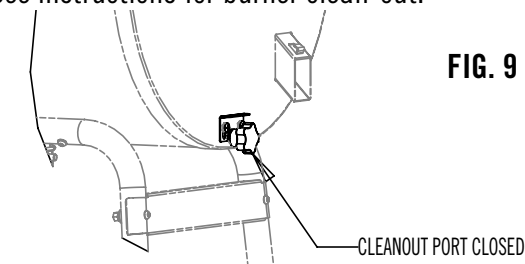

FIG. 9
1. Clean-out Port knob must be pushed in when grill is on. Make sure pullout lock is pushed down and locks the knob to prevent inadvertent opening of the clean-out port. See Fig 9.